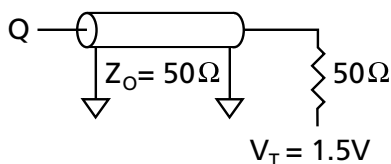
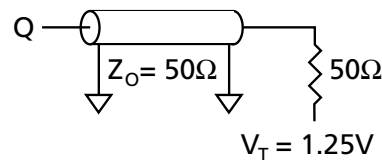

Figure 1
Figure 3
1. Test conditions as specified with the output loading shown in Figure 1 for 3.3V I/O ($V_{DDQ} = +3.3\text{V} +0.3\text{V}/-0.165\text{V}$) and Figure 3 for 2.5V I/O ($V_{DDQ} = +2.5\text{V} +0.4\text{V}/-0.125\text{V}$).
Output load See Figures 1 and 2
Output load See Figures 3 and 4